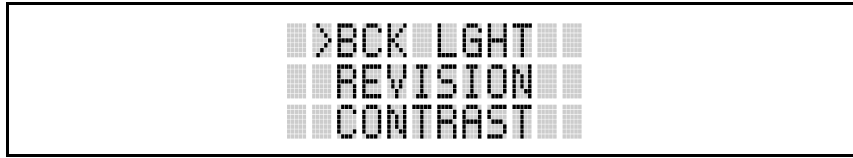

Figure 14: Menu Display
2. Upon entering the menu selection mode, Menu options will appear on the display (see Figure 14).